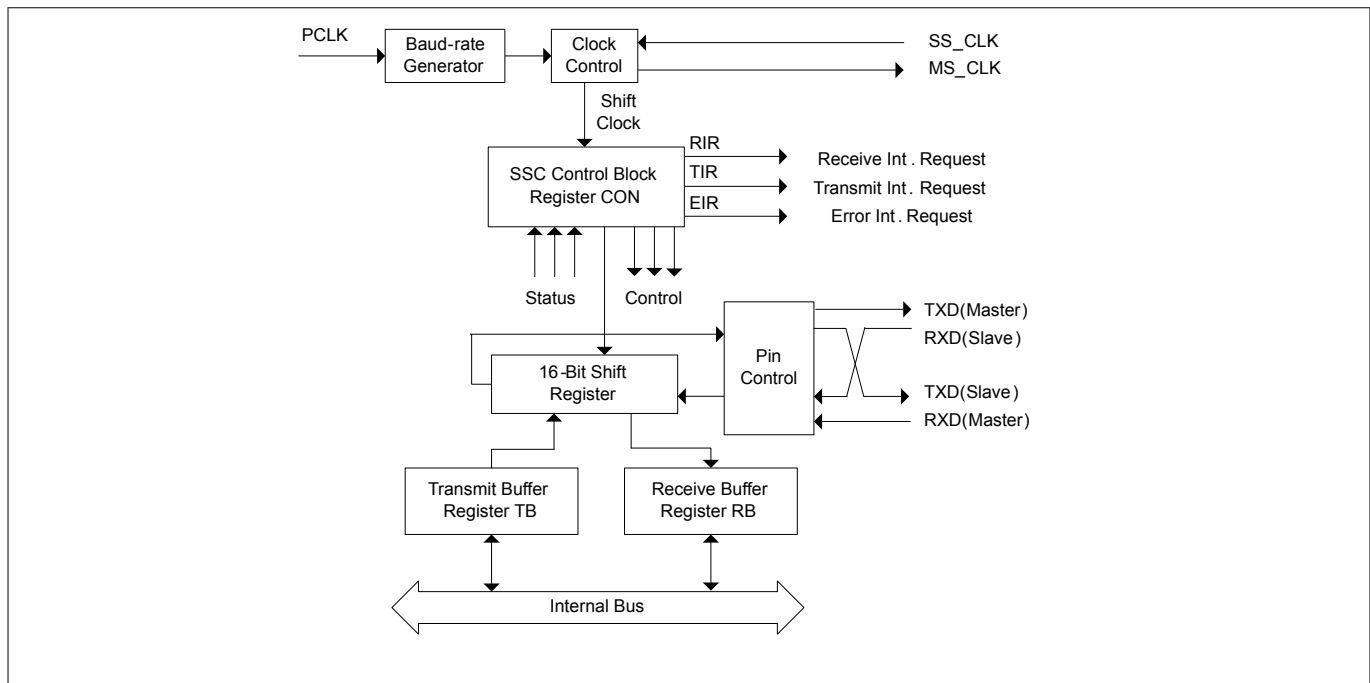

Figure 182 Synchronous serial channel SSC block diagram
The shift register of the SSC is connected to both the transmit lines and the receive lines through the pin control logic (see block diagram in Figure 182). Transmission and reception of serial data are synchronized and take place at the same time, that is the same number of transmitted bits is also received. Transmit data is written into the transmit buffer (TB) and is moved to the shift register as soon as this is empty. An SSC master (CON.MS = 1) immediately begins transmitting, while an SSC slave (CON.MS = 0) will wait for an active shift clock. When the transfer starts, the busy flag CON.BSY is set and the transmit interrupt request line TIR will be activated to indicate that register TB may be reloaded again. When the programmed number of bits (2 ... 16) has been transferred, the contents of the shift register are moved to the receive buffer RB and the receive interrupt request line RIR will be activated. If no further transfer is to take place (TB is empty), CON.BSY will be cleared at the same time. Software should not modify CON.BSY, as this flag is hardware controlled.
The serial channel SSC has its own dedicated 16-bit baud-rate generator with 16-bit reload capability, allowing baud-rate generation independent of the timers. Figure 182 shows the baud-rate generator. The following figure shows the baud-rate generator of the SSC in more detail.